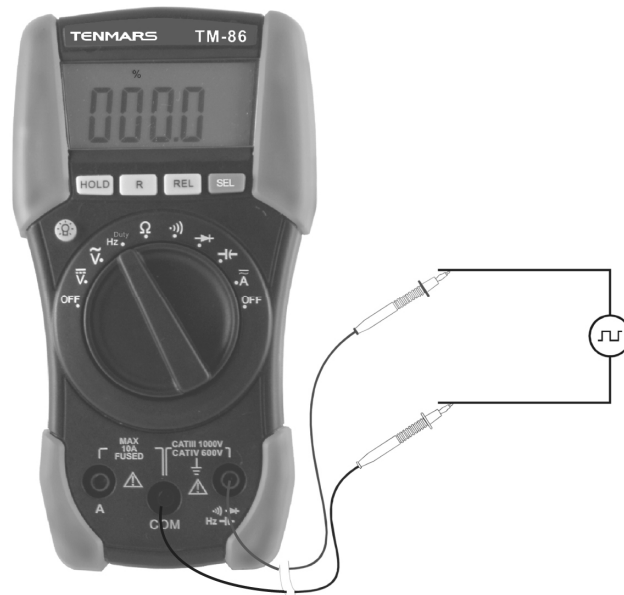

Fig. 10: Using the instrument for Duty Cycle measurement
2. Insert the test leads into the jacks, the red plug into **Cx/HZ/DUTY** jack and black plug into **COM** jack (see Fig. 10).